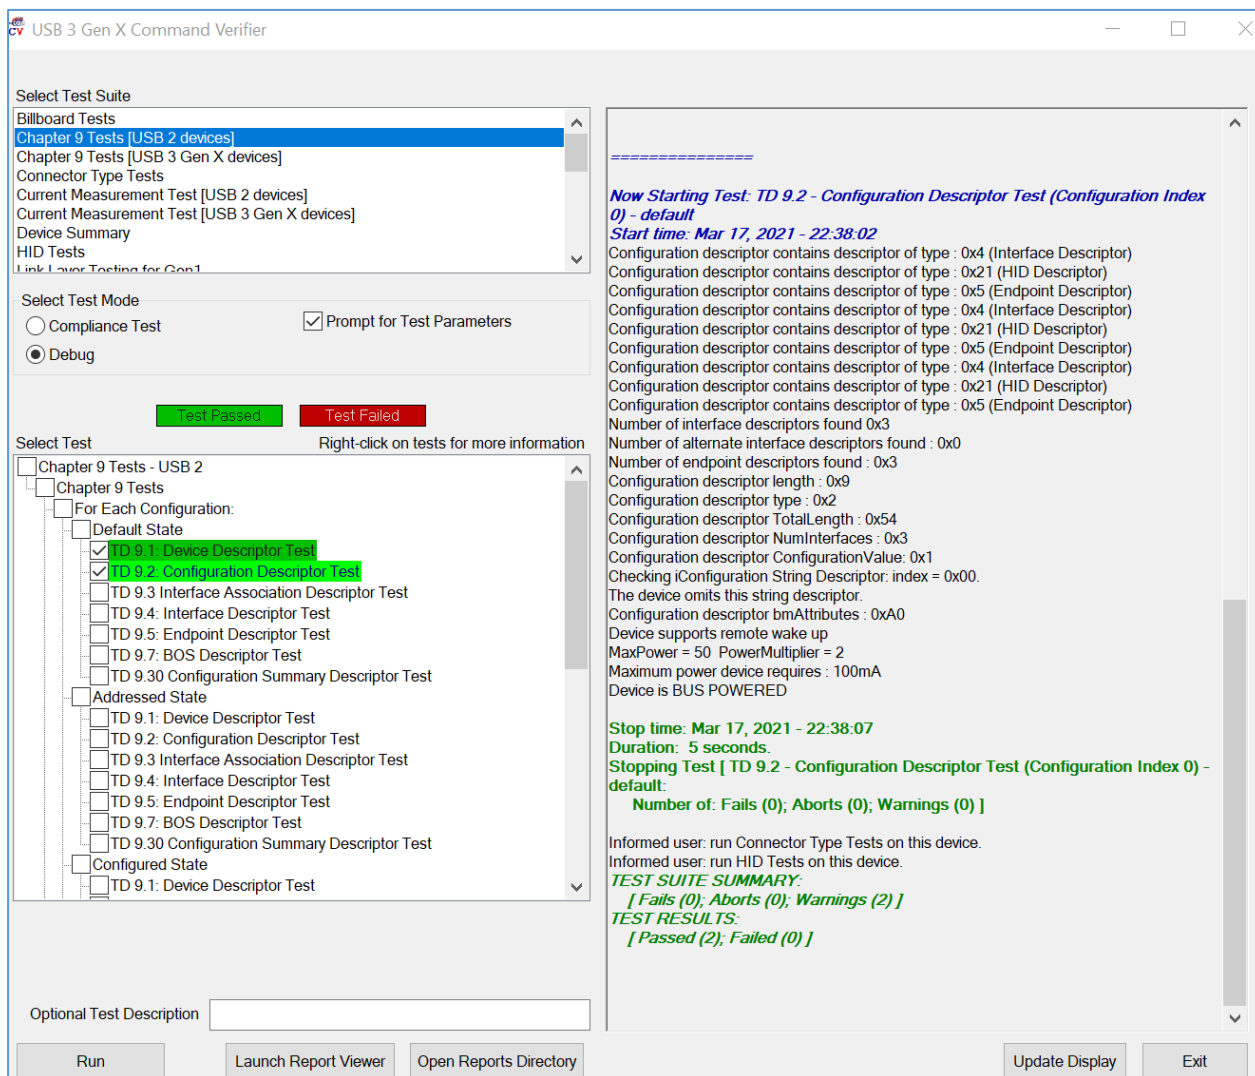

FIGURE 7.11: TEST RESULTS GENERATION IN CV TOOL FOR TD 4.10.1 TESTS
9. The test results will be updated in the CV tool once the test execution is completed (Figure 7.11 below).